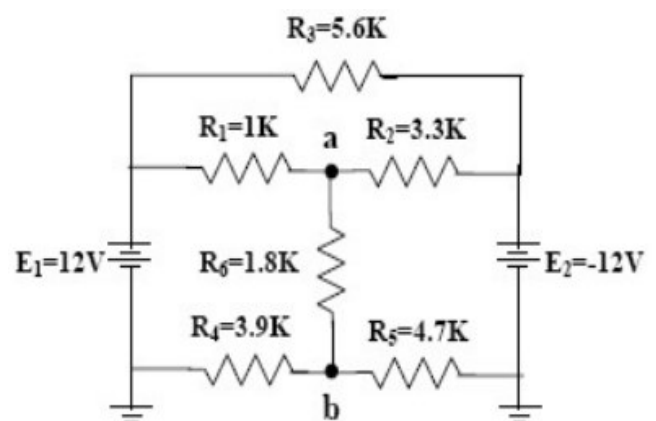

Figure 2.
3. In the circuit shown in Figure 2, use the superposition method to find the voltages at nodes a and b and the current through the resistor R_6 .
3. In the circuit shown in Figure 2,